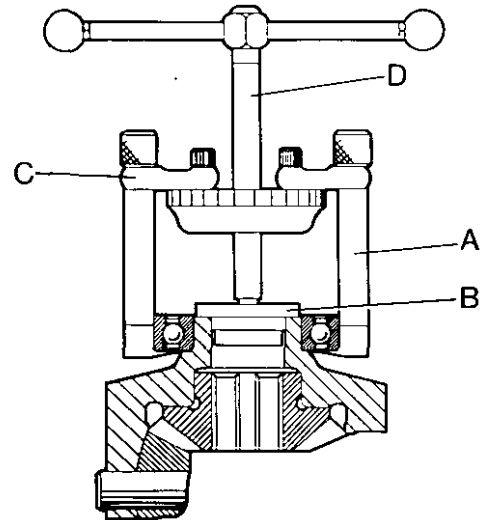

FIGURE 98. REMOVING BEARINGS
10. If there is wear or damage, use Service Tool K960605 Figure 98 to remove the bearings.